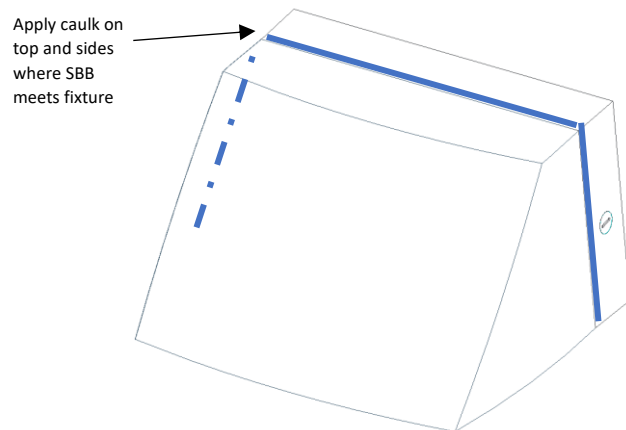
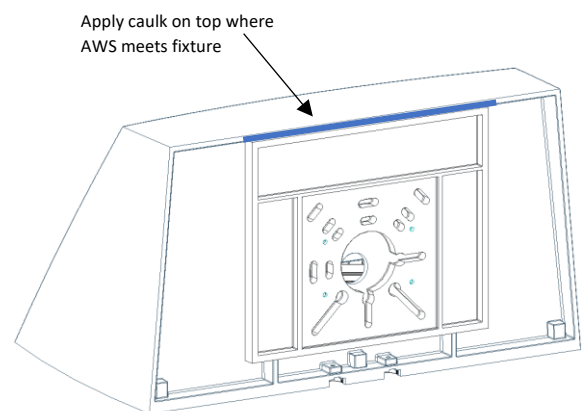

Figure 10
Figure 11
10. If using AWS or SBB, apply caulk at the following locations. AWS: Top where AWS touches fixture; SBB: Top and sides where SBB touches fixture (Figure 10 and Figure 11).